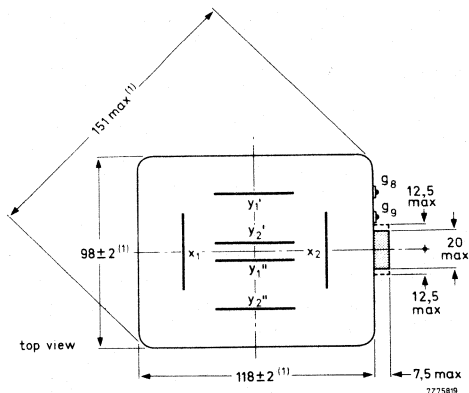

Fig. 3 Top view.
(1) The bulge at the frit seal may increase the indicated maximum dimensions (Fig. 3) by not more than 3 mm.
(2) Minimum length of cable: 420 mm.